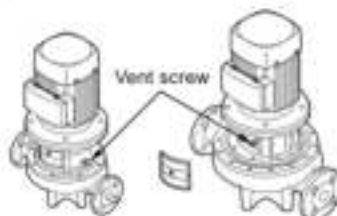

Fig. 15 Position of vent screw
1. Close the isolating valve on the outlet side and loosen the vent screw in the motor stool. See fig. 15.
2. Loosen the vent screw. See fig. 15.
- Vent the pump during starting by loosening the vent screw in the motor stool until a steady stream of liquid runs out of the vent hole. See fig. 15.